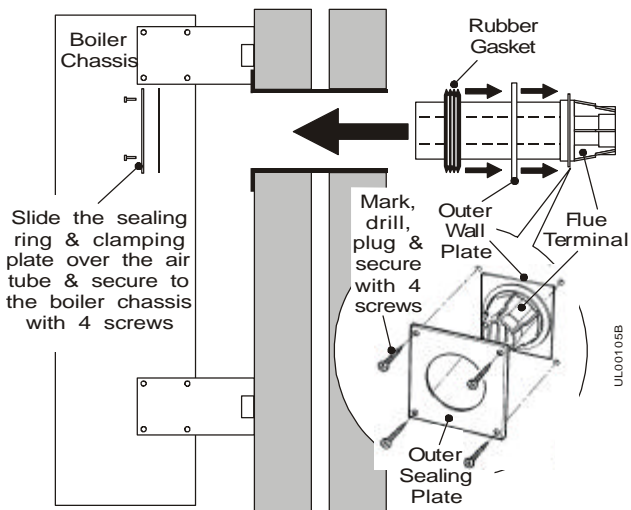

Fig 13
10. Locate the outer wall plate and rubber gasket onto the die cast flue terminal. See Fig.13.
15. Slide the sealing ring and clamping plate over the flue and push up to the boiler chassis. Secure using the four screws previously removed. See Fig.13.